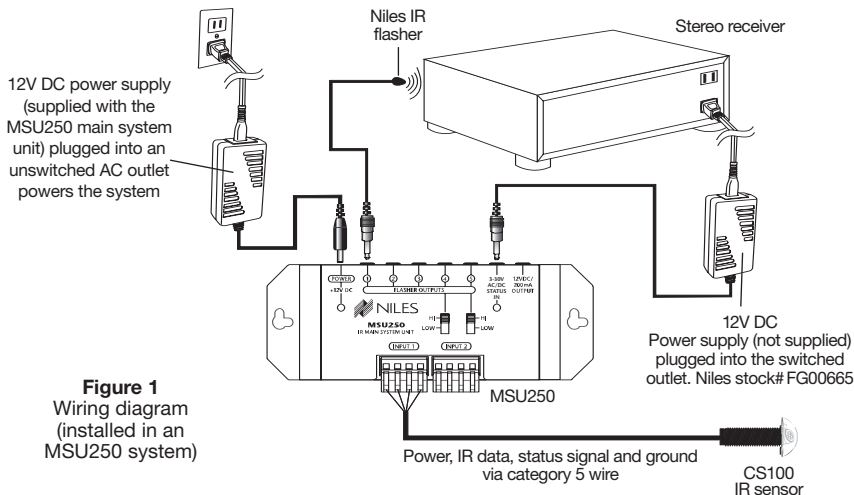

Figure 1
5. Connect the CS100 cable to the main system unit (Figure 1). Strip 1/4" of insulation from the end of each wire. Tightly twist the end of each wire until there are no frayed ends. Insert each wire into the appropriate hole on the removable connector plug, and snap the locking tab down.